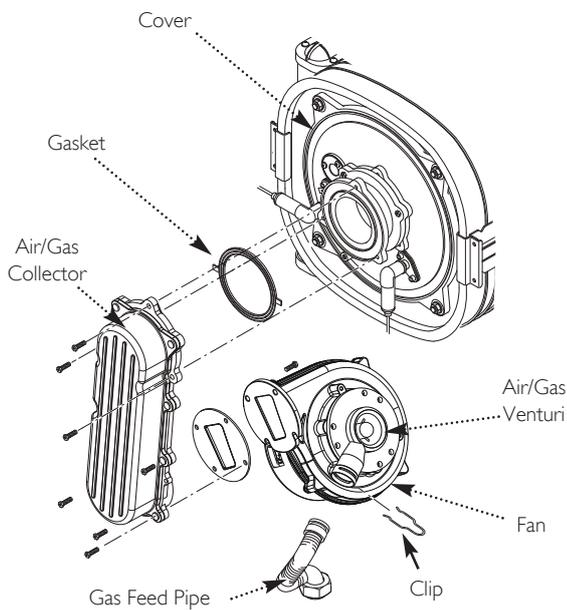

Fig. 45
### 13.2 Fan (Fig. 45)
2. Undo the screws securing the air/gas collector to the extension piece and disconnect the fan electrical plugs (Fig. 45).
### 13.3 Air/Gas Venturi (Figs. 45 & 46)